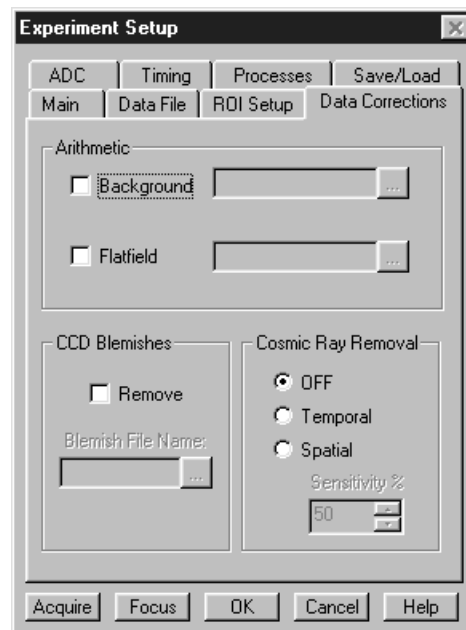

Figure 45. Data Corrections tab page
4. On the **Data Corrections** tab page (Figure 45) all of the correction functions should be OFF.